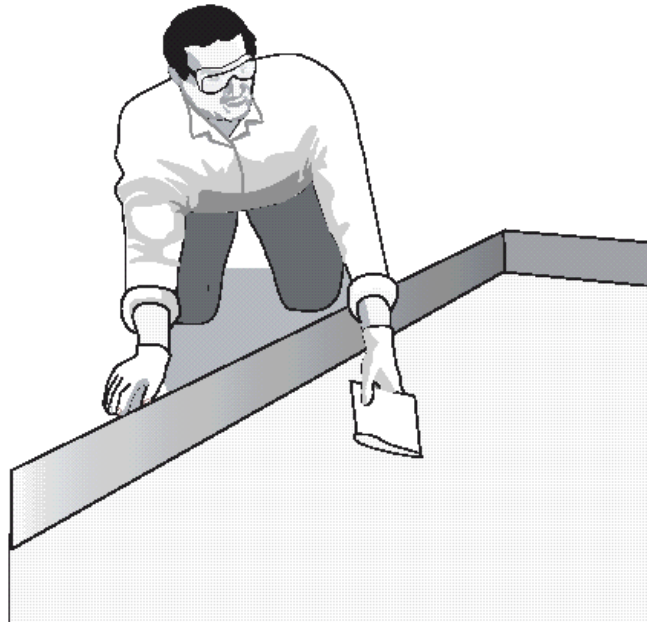
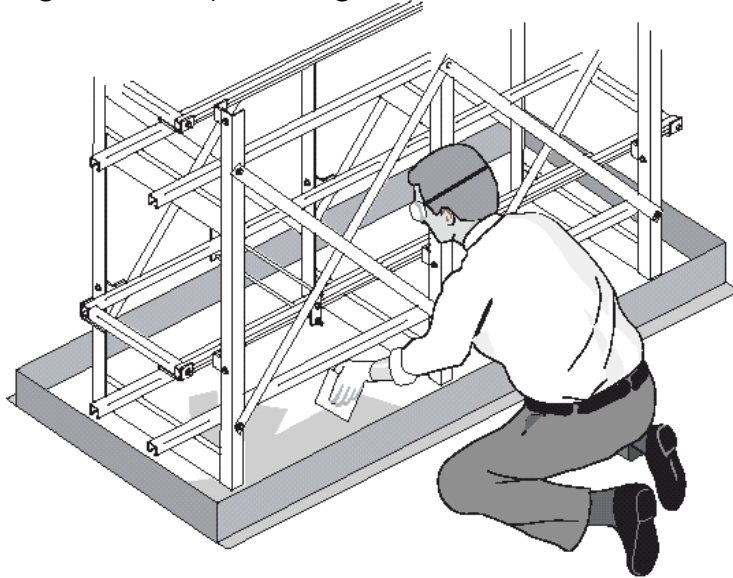

Figure 6.1 – Spreading Acidsafe in New Installations
Figure 6.2 – Spreading Acidsafe Around Existing Racks
- 6.3** Pour and spread the Coating evenly over the floor inside the containment area using a plastic spreader or putty knife (Figure 6.1). If installing the coating under an existing rack, try to allocate equal amounts of coating material between each set of rack frames. Spread the coating using a 1/4 inch v-notch spreader to obtain a uniform thickness. Figure 6.2 shows coating being applied under a rack. Note that the batteries are not illustrated for reasons of clarity; batteries DO NOT need to be removed in order to apply the coating.